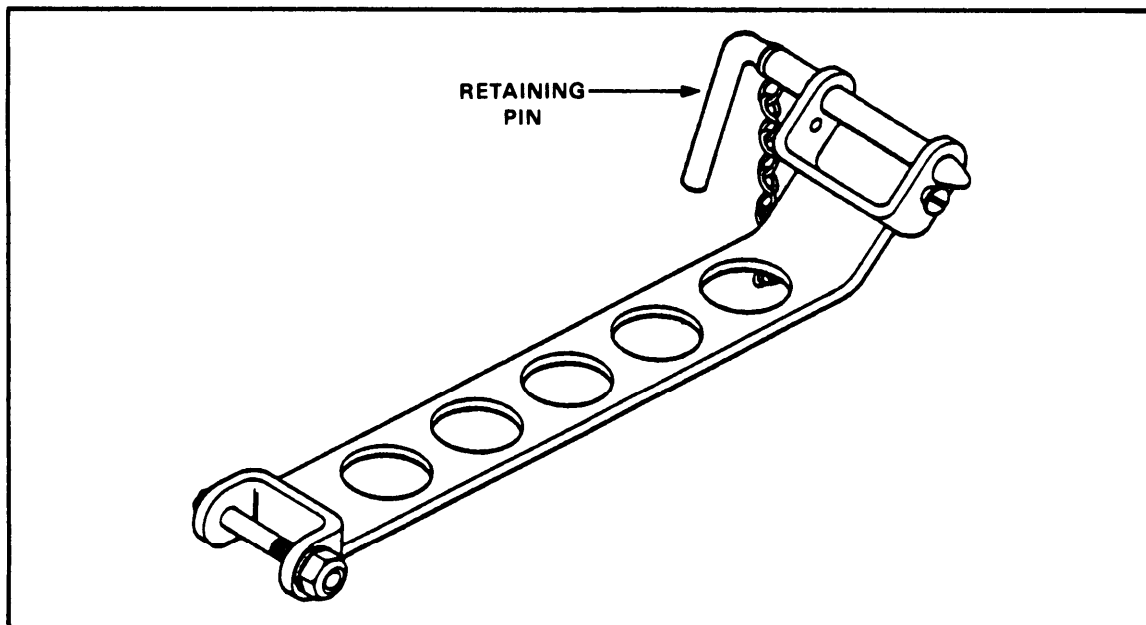

Figure 3-16. Travel lock adapter.
(3) Travel lock adapter. This is used to hold the gun cradle securely during travel. It is attached to the gun cradle by a retaining pin, which is inserted through the gun cradle train and elevating mechanism mounting holes (Figure 3-16).